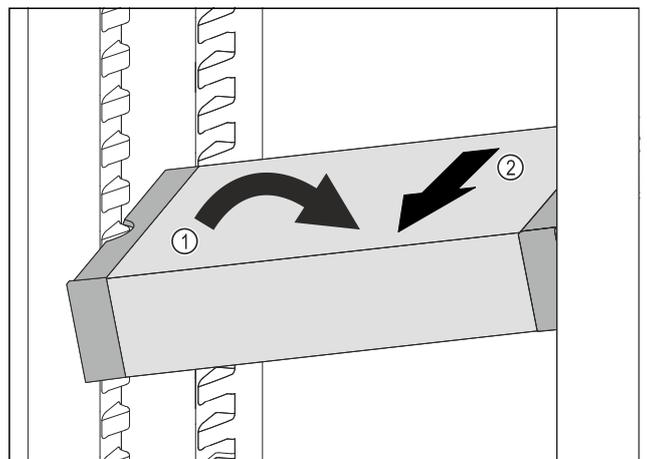

Fig. 86
- ▶ Set VarioSafe in refrigerator compartment at an angle. Fig. 86 (1)
- ▶ Take VarioSafe out to the front. Fig. 86 (2)